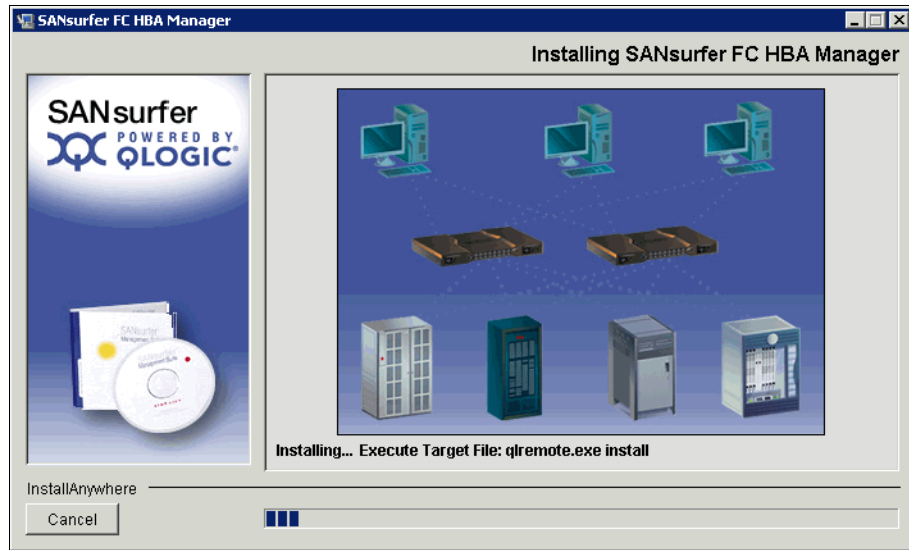

Figure 17-6 Installation progress window
- The installation process begins and takes some time. You can see the progress in the window that is shown in Figure 17-6.